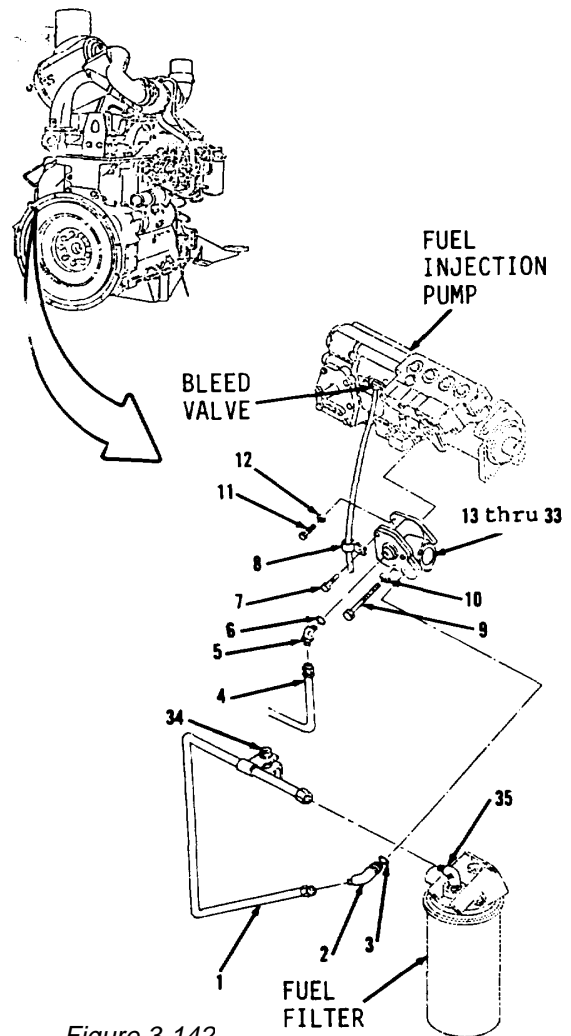

Figure 3-142
2. Open bleed valve on fuel injection pump to relieve fuel pressure and close (Figure 3-142).
3. Loosen bolt (34).